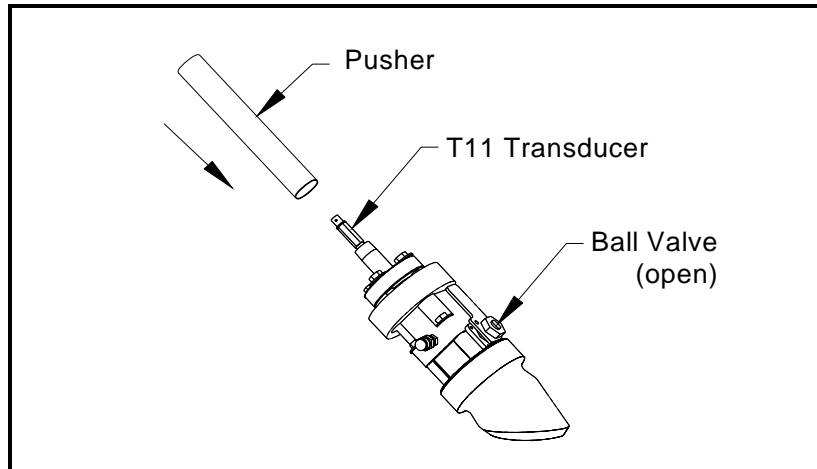

Figure 6-5: Transducer Pusher Installation
2. Apply anti-seize lubricant to the transducer thread and hand-tighten the transducer pusher onto the transducer until it is firmly in place (see Figure 6-5 below).